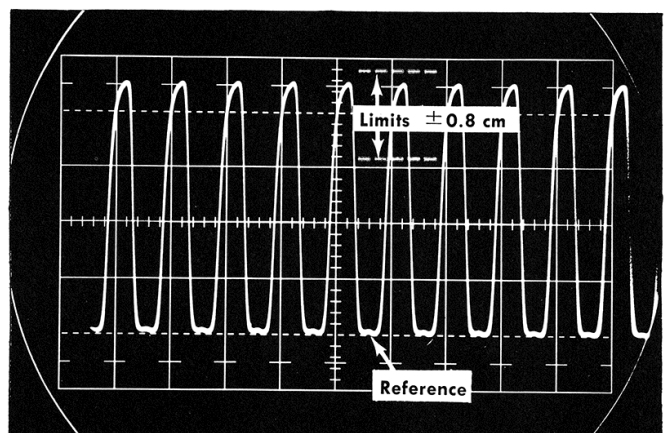

Fig. 6-15. Typical display of Trigger Output signal.
c. Check that the trigger signal amplitude is 200 mV \pm 40 mV (4 cm \pm 0.8 cm); see Fig. 6-15. Also check the trigger signal amplitude with the PERIOD switch at 1 μs and 10 μs.